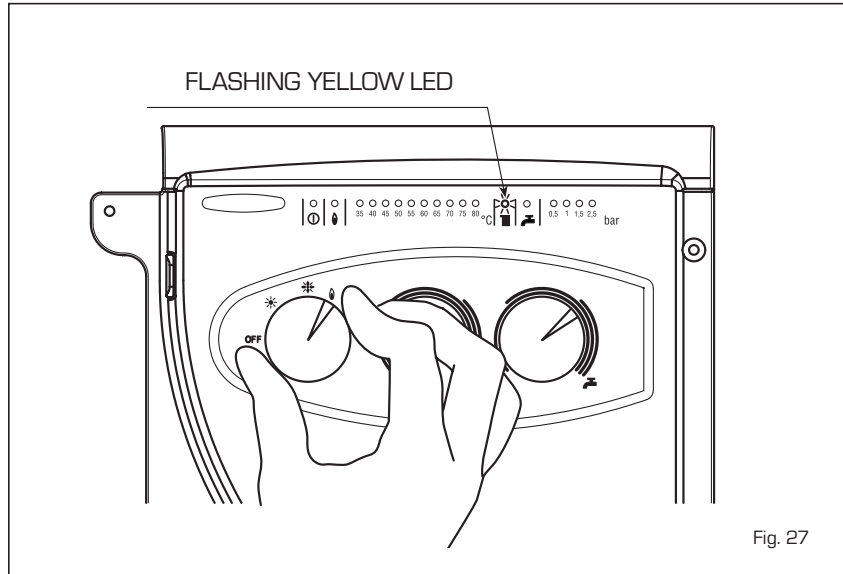

Fig. 27
To carry out the verification of combustion in the boiler, turn the selector and stop on the position (I) until the orange led (III) starts to flash intermittently (fig. 27).